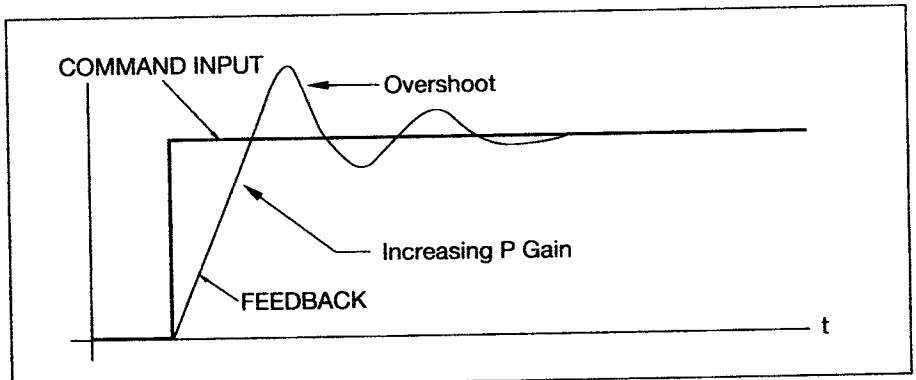

Figure 5. Moderate overshoot.
- Now, continue to raise the Proportional Gain until a moderate overshoot occurs, as shown in Figure 5.